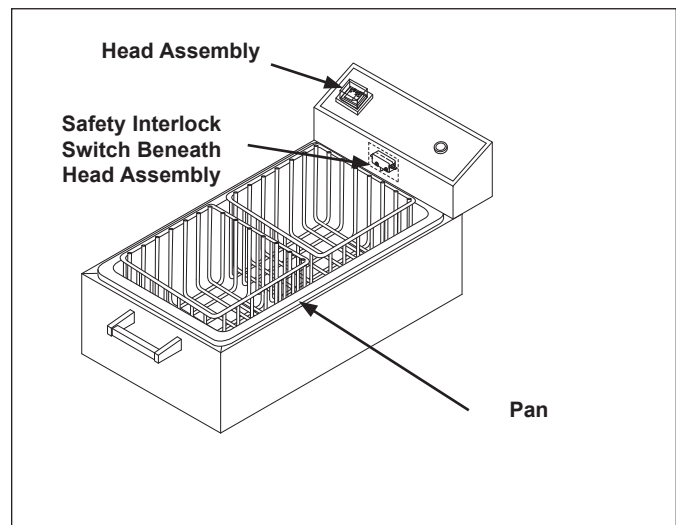

Figure 1. Corn Cooker
**NOTE: If the light on the Rocker Switch does not light up, remove and reinstall the Head Assembly onto the pan (Figure 1) to ensure that the Safety Interlock Switch is properly engaged. If the Safety Interlock Switch is not engaged, the Rocker Switch light will not turn on, therefore, the unit will not heat.**